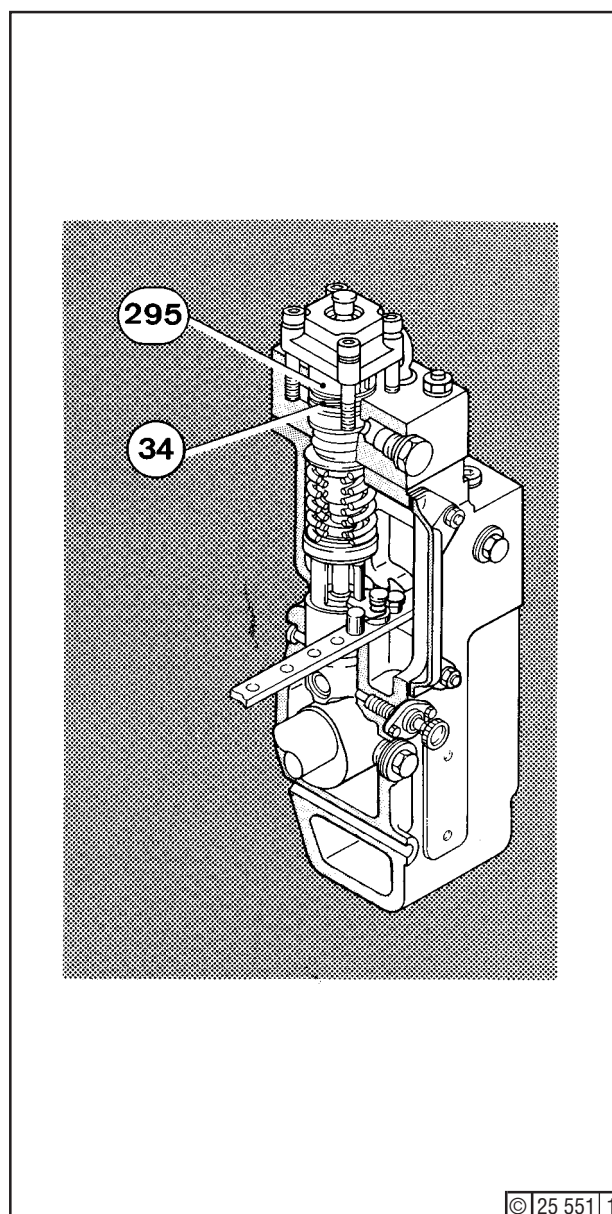

Fig. 1
Remove pump element (Job Card 07.02.01). Remove element seal (34) - Fig. 1 - from barrel.